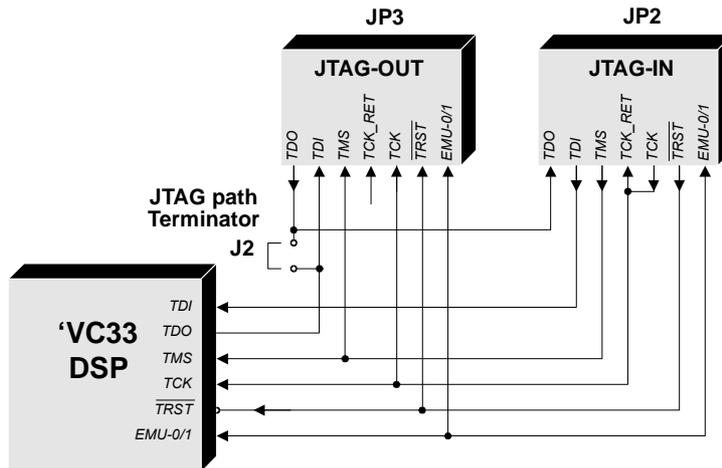

Fig. 2-21. On-board JTAG path for connection external JTAG emulator to *TORNADO-33*.
*TORNADO-33* on-board JTAG path for connection to external TI XDS510 or MicroLAB' *MIRAGE-510DX* JTAG emulator is presented at figure 2-21 (see also fig. 2-1 and fig. A-1) and comprises of JTAG-IN connector (JP2), TMS320VC33 JTAG port, JTAG-OUT connector (JP3), and JTAG path terminating jumper (J2).